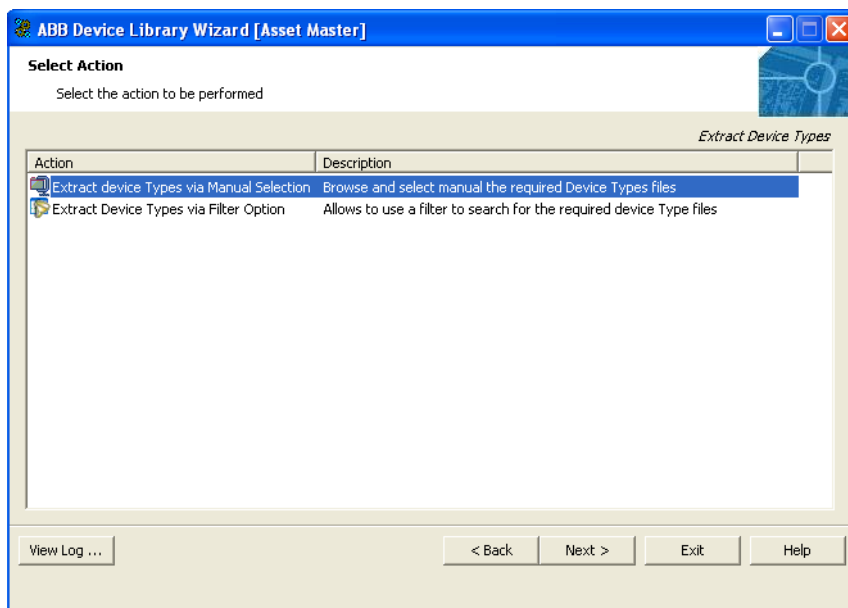

Figure 99. Device Type Extraction via Manual Selection
3. A screen, similar to the one shown in Figure 99 is displayed. Select **Extract Device Types via Manual Selection** and click **Next**.